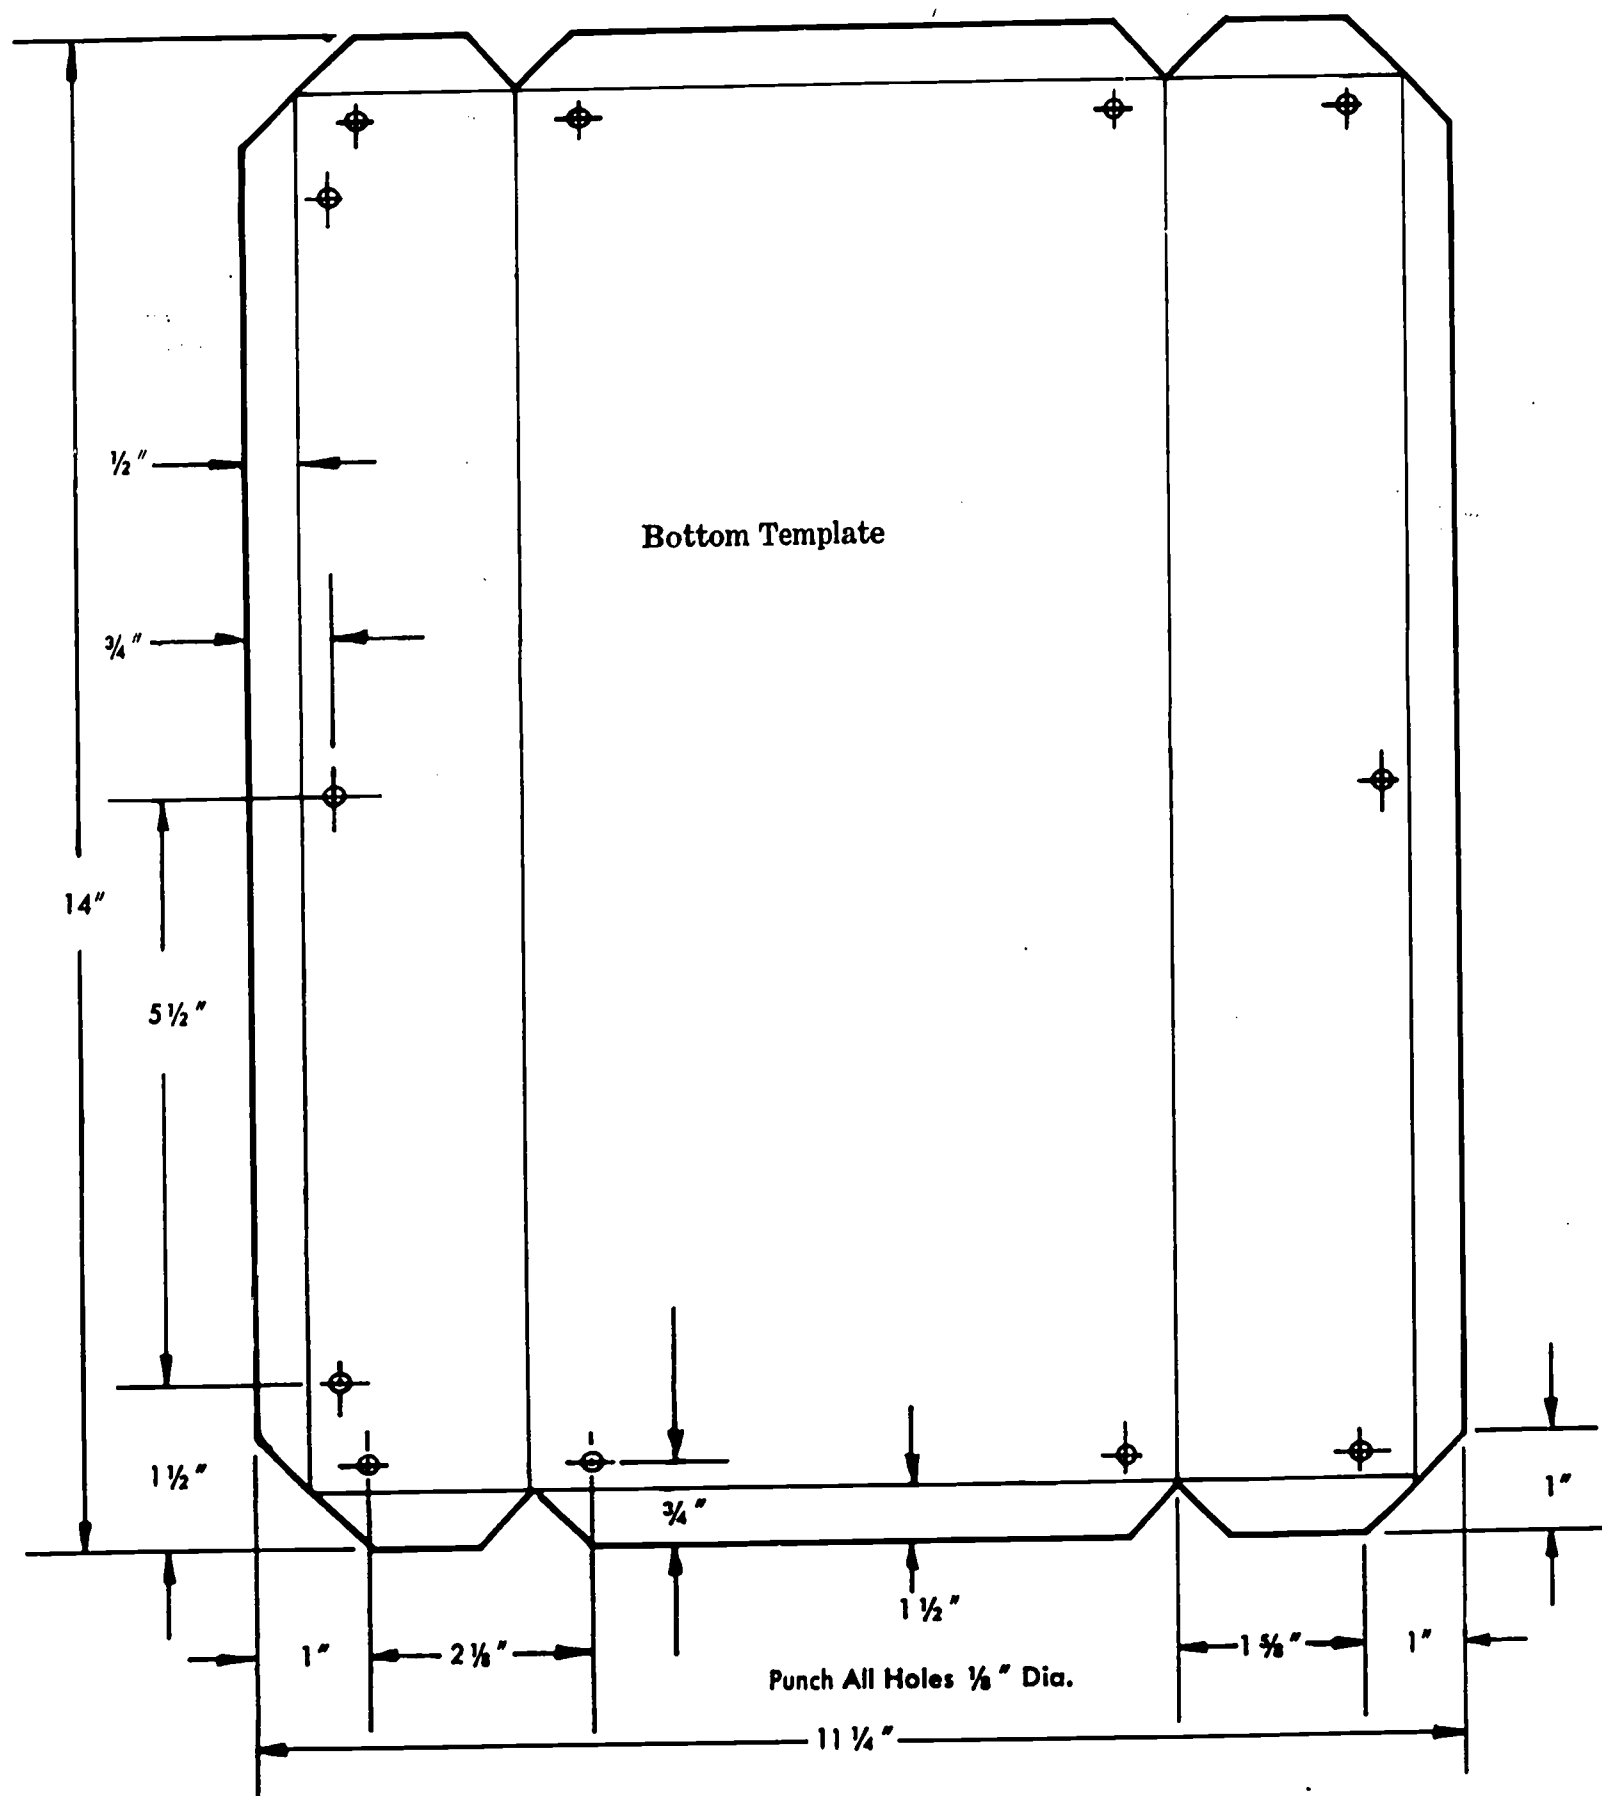
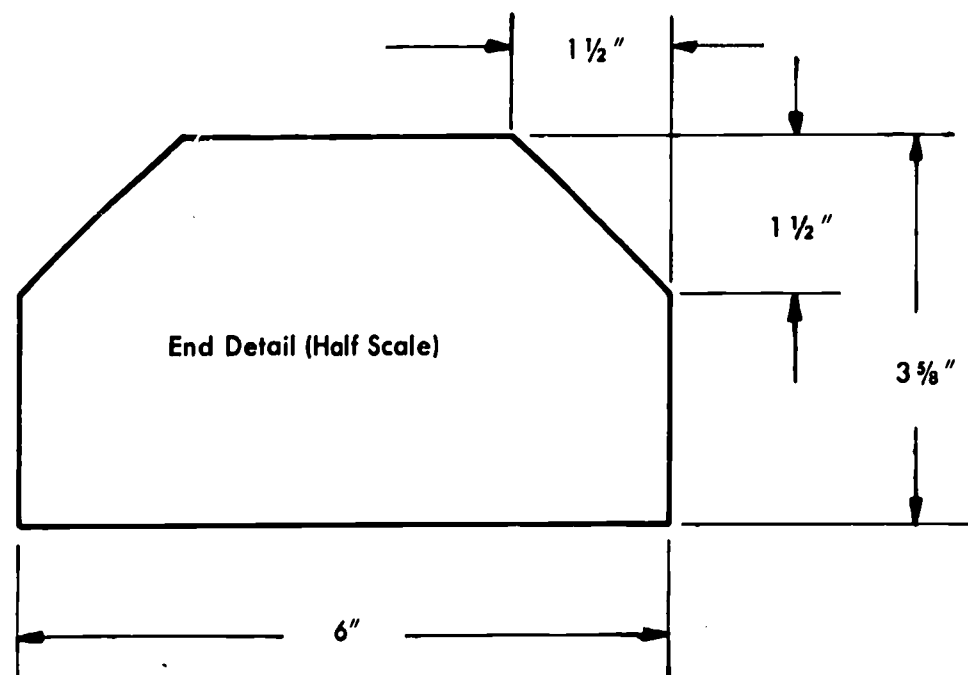

Fig. 126-4. Bottom Template 126-1 (Half Scale)
Fig. 126-6. End Detail
1. Drawings for the templates, fixtures, and jigs are shown in Figs. 126-4, 5, 10, and 17. Figures 126-6, 7, 8, and 9, show details of the components and Figs. 126-13 and 14 will show you a picture of the completed box. Figures 126-15 and 16 show alternate designs for the box.